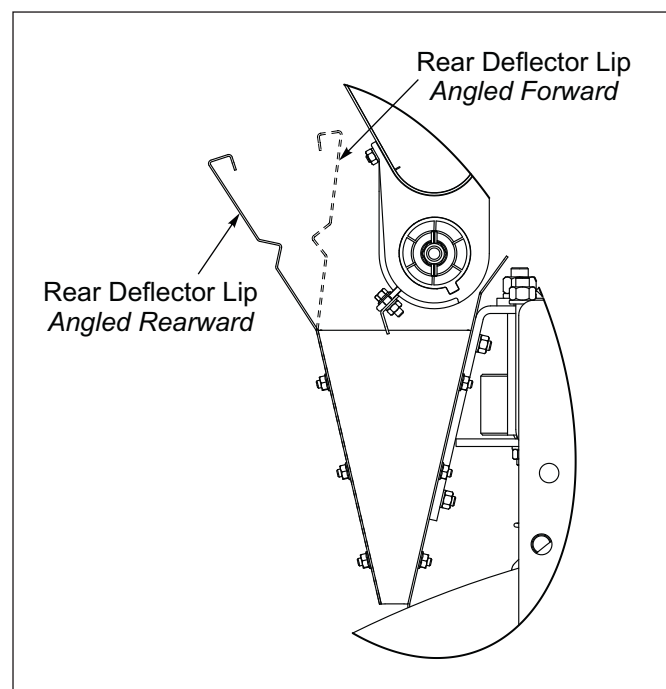

Figure 2-45: Deflector Flipped
10. Remove Rear Deflectors. Turn Rear Deflectors around so that the lip angles rearward. Re-install Rear Deflectors. **See Figure 2-45.**